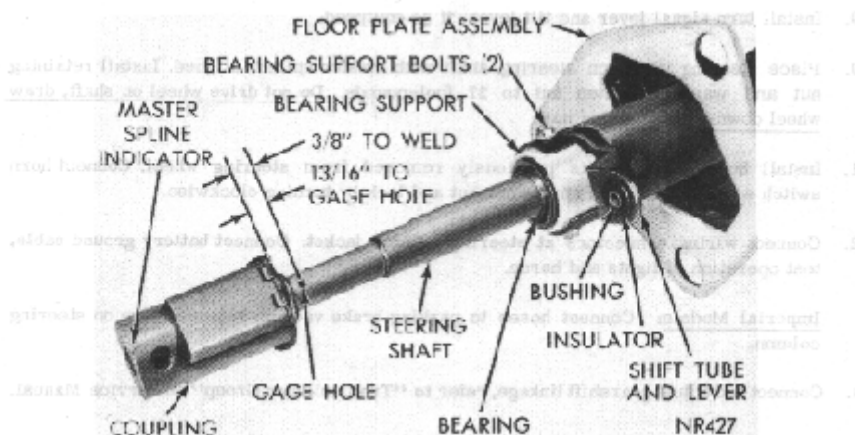

FIGURE 10: STEERING COLUMN COUPLING ALIGNMENT
4. Center steering shaft coupling at midpoint of its travel. This is accomplished by moving column and bracket assembly fore and aft in the instrument panel support so dimension between top of coupling and center of gauge hole is $\frac{13}{16}$ inch (Figure 10). Tighten the two upper bracket nuts to 110 inch-pounds. Valiant and Barracuda models with power steering have no gauge hole in the steering shaft. Measure from top of coupling to weld on steering shaft. Adjust to $\frac{3}{8}$ inch.